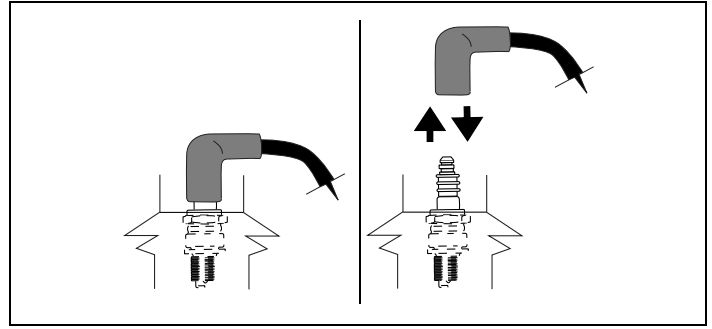

Figure 28. Disconnecting/Connecting Spark Plug
- Disconnect spark plug wire and keep it away from spark plug. See "G. Avoid Accidental Starts" instructions on page 2. See Figures 28 and 29.
2. Disconnect spark plug wire and keep it away from spark plug. See "G. Avoid Accidental Starts" instructions on page 2. See Figures 28 and 29.
11. Carefully re-connect spark plug wire to spark plug. See Figures 28 and 29.